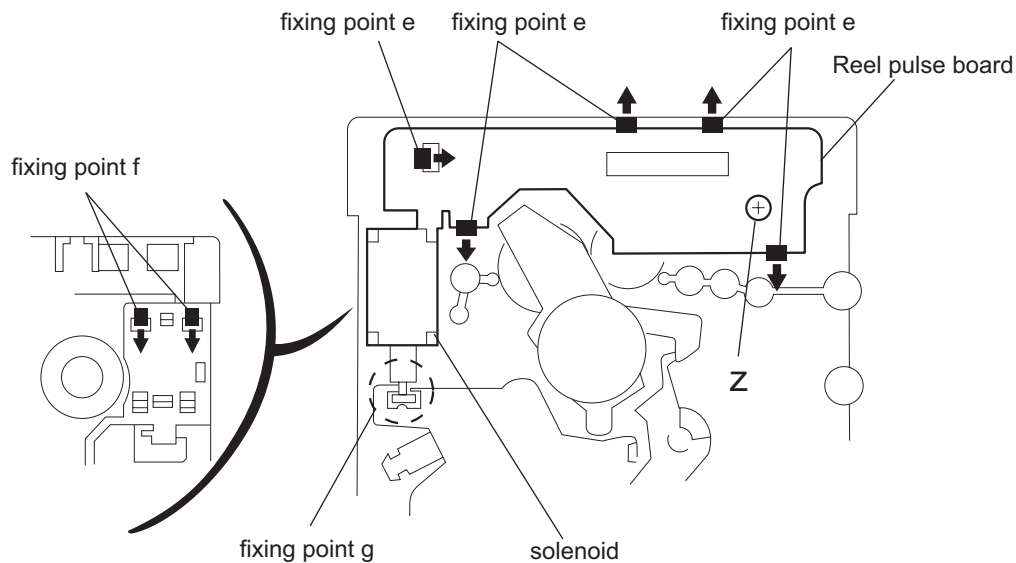

Fig.10
2.2.6 Removing the reel pulse board and solenoid (See Fig.10)